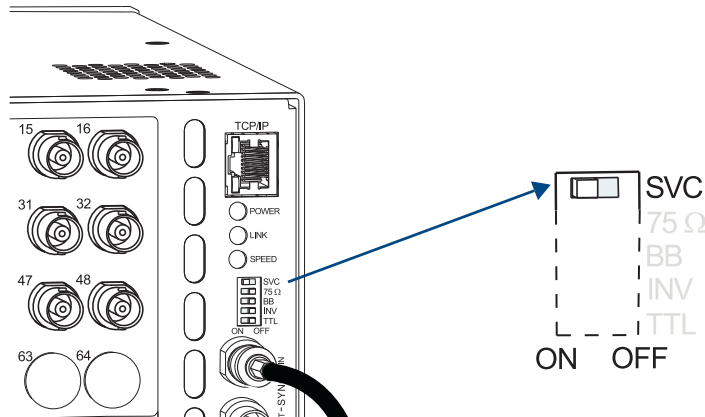

FIG. 41 Service switch in Service mode
If the client-defined Admin user name and password is lost, the Service switch below the TCP/IP (RJ-45) connector can be used to reset them to the default values (all values including those for the IP Address and Subnet Mask are reset in the process). When the switch is flipped to the right, it is set for normal functioning. As long as security is turned on (the default setting), a password is required to access the APWeb server. When the Service switch is flipped to the left (FIG. 41 on page 81), it is set for Service mode and the APWeb server is disabled.
1. Flip the Service switch to the left to place it in Service mode (FIG. 41).